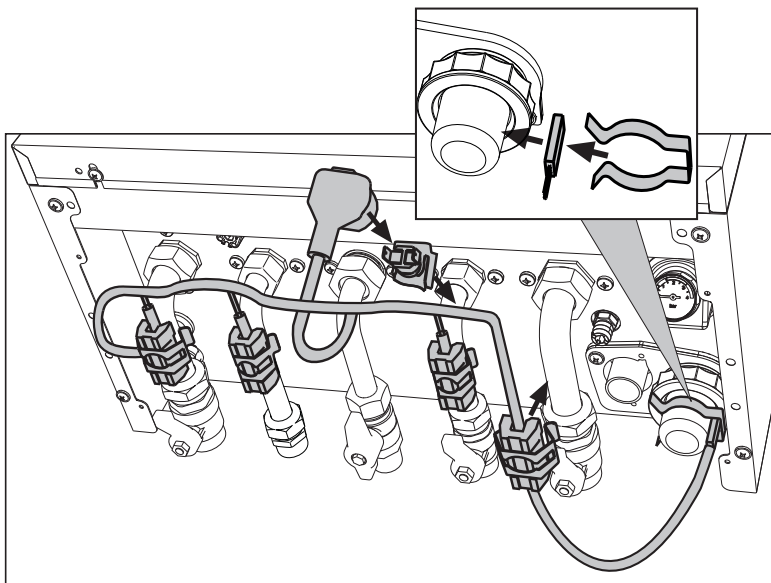

fig. 39- Frost protection kit
In case of installation outside in a place partially protected for temperatures below -5°C and to -15°C , the boiler must be fitted with the special frost protection kit to protect the circuit. Connect the kit to the PCB as indicated in the wiring diagram in fig. 60 (ref. 288) and position the thermostat and heaters on the pipes as indicated in fig. 39 and in the instructions provided with the kit.